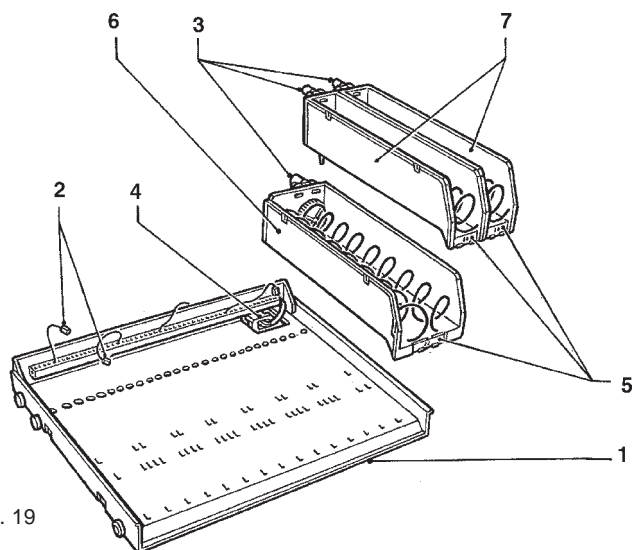

Fig. 19
- Move the guides (see Figure 19) placed on the side supports, except the first ones at the bottom which stay in the same position.